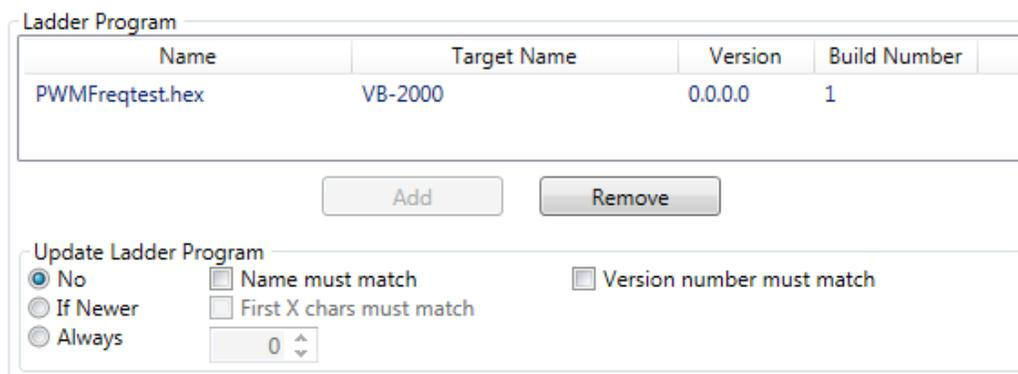

Figure 5
4. In the Ladder Program pane, click the **ADD** button. A window will open. Click the **Browse** button to the location of the ladder diagram file to be included in the executable update file. The program must be compiled in EZ LADDER prior to this action. Compiling creates a .hex and a .hex2 file in the same directory the ladder diagram file is located in (.ldd). This hex and hex files are used in the creation of the User Update Program. Once the file has been selected, click the **Open** button. The window will close and the selected ladder program file will now be shown in the Ladder Program section of the kernel pane. Refer to Figure 5.